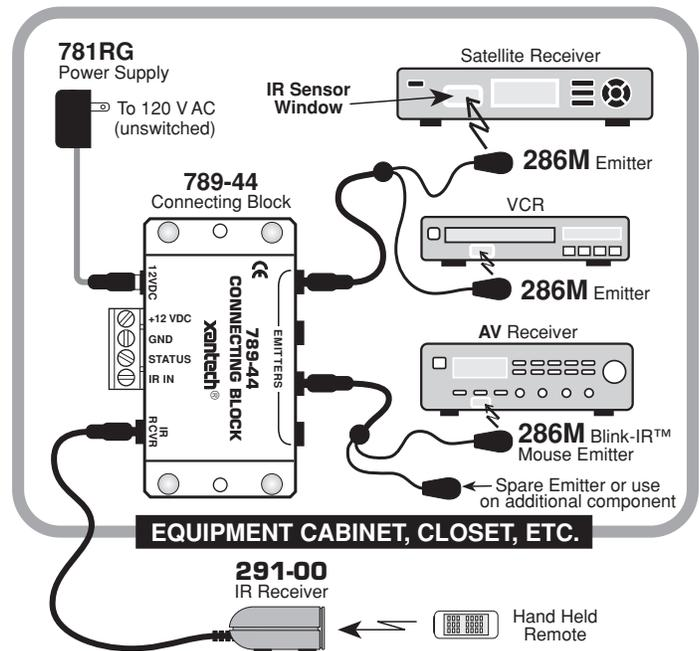

Fig. 4
- **Fig. 4** illustrates a typical basic system using 286M emitters